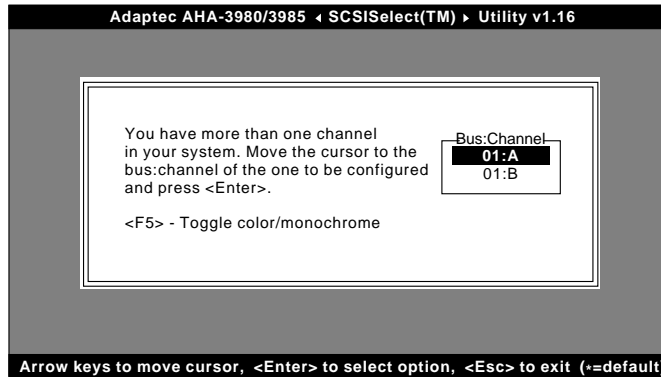

Figure 13-32. Selecting a SCSI Channel
- 2 Start SCSISelect (see *Starting SCSISelect* on page 13-6). The SCSISelect screen appears, listing the channels. As shown in Figure 13-32, the PCI bus number for the AHA-3980/3985 precedes the channel letter. Channel A on PCI bus 1, for example, is designated 01:A.